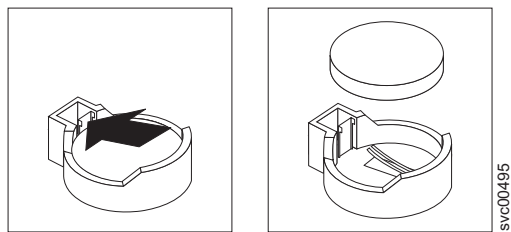

Figure 132. Removing the SAN Volume Controller 2145-8A4 CMOS battery
7. Remove the CMOS battery, as shown in Figure 132: